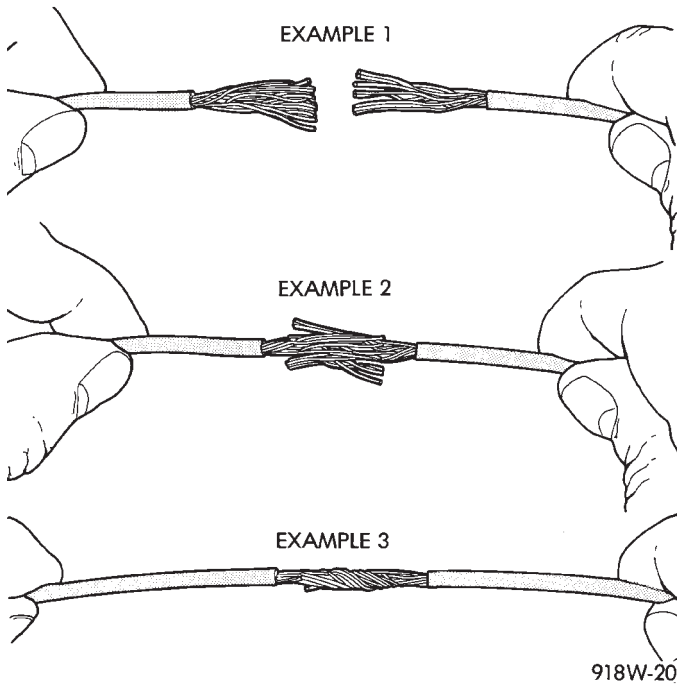

Fig. 12 Wire Repair
- (1) Disconnect battery negative cable
- (2) Remove 1 inch of insulation from each end of the wire.
- (3) Place a piece of heat shrink tubing over one side of the wire. Make sure the tubing will be long enough to cover and seal the entire repair area.
- (4) Spread the strands of the wire apart on each part of the exposed wire (example 1). (Fig. 12)
- (5) Push the two ends of wire together until the strands of wire are close to the insulation (example 2) (Fig. 12)
- (6) Twist the wires together (example 3) (Fig. 12)
- (7) Solder the connection together using rosin core type solder only. **Do not use acid core solder.**
- (8) Center the heat shrink tubing over the joint, and heat using a heat gun. Heat the joint until the tubing is tightly sealed and sealant comes out of both ends of the tubing.
- (9) Secure the wire to the existing ones to prevent chafing or damage to the insulation